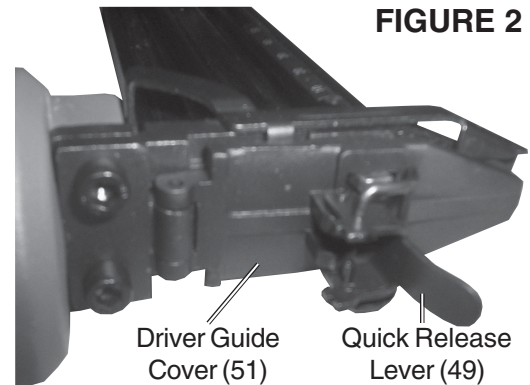

FIGURE 2
1. Disconnect tool from air hose, empty the **Magazine (60)** of nails, release any built-up air pressure, and leave the magazine open, as explained above.
2. While doing this step and the next, hold the Nailer pointed away from you and any other people or fragile objects. Pull the **Quick Release Lever (49)** forward to the position shown in *Figure 2*. Remove the **Driver Guide Cover (51)**.